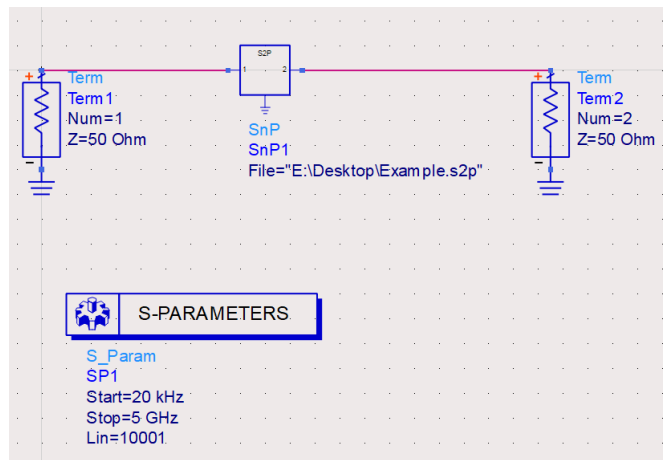

Figure 10: *Sparam2* Schematic.
- Create a new schematic named "*Sparam2*". Draw the circuit with the given parameters as in Figure 10.